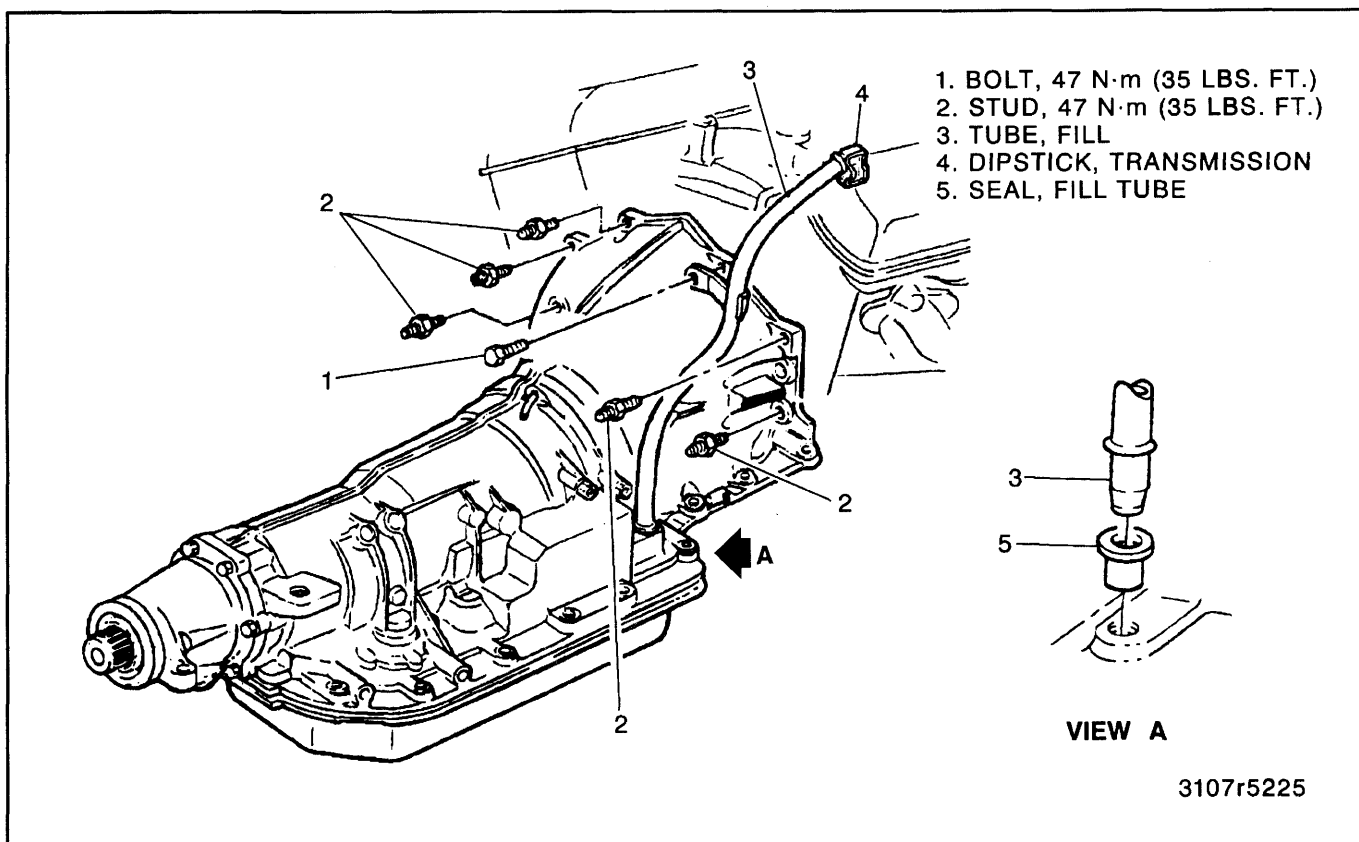

Figure 20—Filler Tube Replacement
↔ Remove or Disconnect (Figure 20)
↔ Install or Connect (Figure 20)
↔ Remove or Disconnect (Figures 20 through 23)
Install or Connect (Figures 20 through 23)
9. Dipstick tube with a new seal (figure 20).